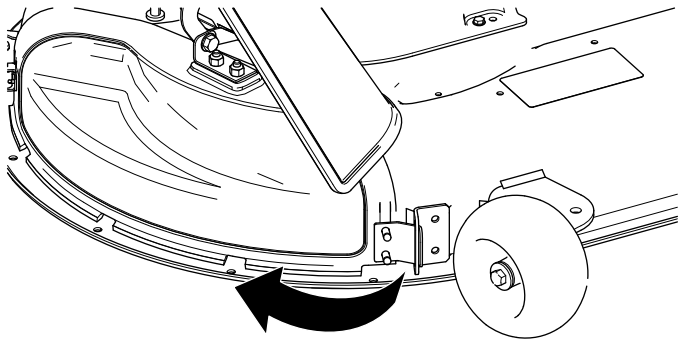

Figure 3
3. Pivot the discharge cover back and toward the deck so that the discharge cover aligns with the mower deck (Figure 3).